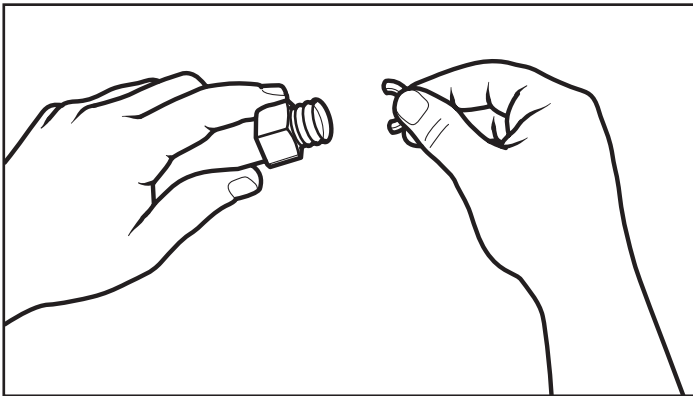

Figure: 4-5
3. INSTALL FITTING NUT: Slide nut over cut end: place two split-rings into the first corrugation next to the tube cut. Slide nut forward to trap the rings. Figure: 4-5